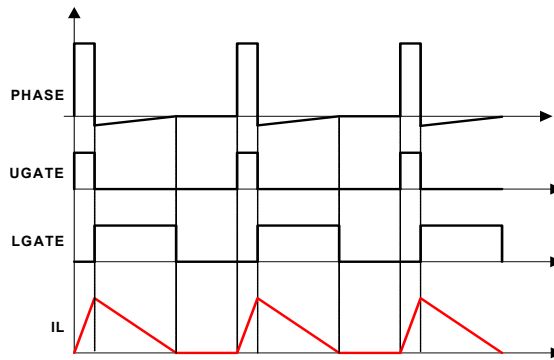

Figure 26. Diode Emulation
The R3 modulator can operate in Diode Emulation (DE) mode to increase light-load efficiency. In DE mode the low-side MOSFET conducts when the current is flowing from source-to-drain and does not allow reverse current, emulating a diode. As shown in Figure 26, when LGATE is on, the low-side MOSFET carries current, creating negative voltage on the phase node due to the voltage drop across the ON-resistance. The IC monitors the current by monitoring the phase node voltage. It turns off LGATE when the phase node voltage reaches zero to prevent the inductor current from reversing the direction and creating unnecessary power loss.
If the load current is light enough, as Figure 26 shows, the inductor current reaches and stays at zero before the next phase node pulse and the regulator is in Discontinuous Conduction Mode (DCM). If the load current is heavy enough, the inductor current never reaches 0A and the regulator is in Continuous Conduction Mode (CCM) although the controller is in DE mode.